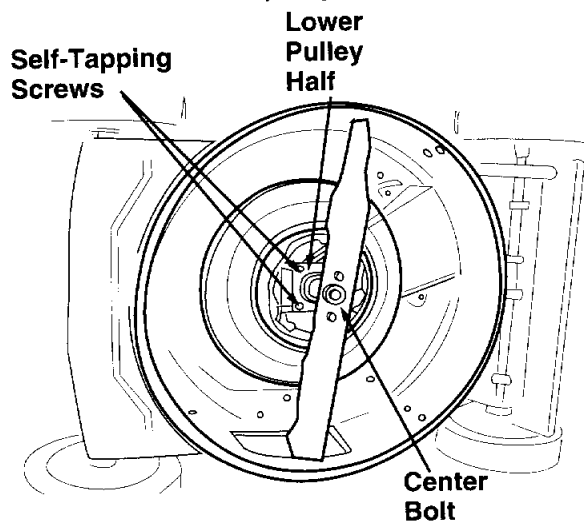

Figure 18.
6. Remove the center bolt which secures the blade to the crankshaft. See figure 18. Remove the blade and blade adapter.
7. Remove the two self-tapping screws which secure the lower pulley half. See figure 18.